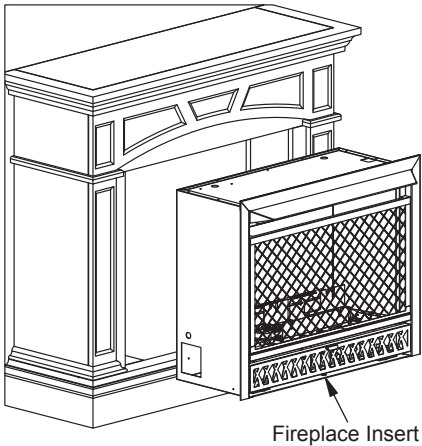

Figure 40
12. After assembling the mantel, carefully lift to the upright position. Push the fireplace insert from the front of the mantel as shown in Figure 40.